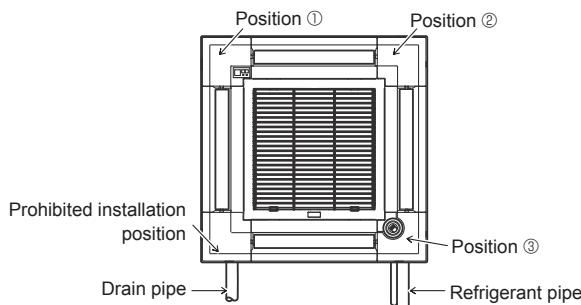

Fig. 9-11
The signal receiver corner panel can not be installed on the drain pipe side for the main unit. (Refer to Fig. 9-11)
- The i-see Sensor corner panel should be fixed onto the grille ① with screw ⑦.
- If the position of the i-see Sensor was changed from default position (position ③) to the other position, change the function settings. (Refer to page 12 and Fig. 9-11)
- The i-see Sensor corner panel can not be installed on the drain pipe side for the main unit. (Refer to Fig. 9-11)